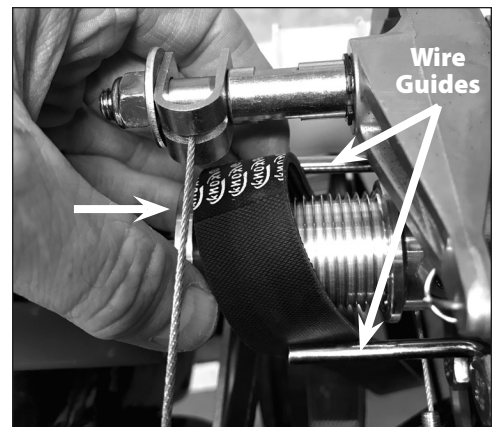

Figure 12
2. Place forward belt around engine pulley in forward groove between the wire guides. SEE FIGURE 12